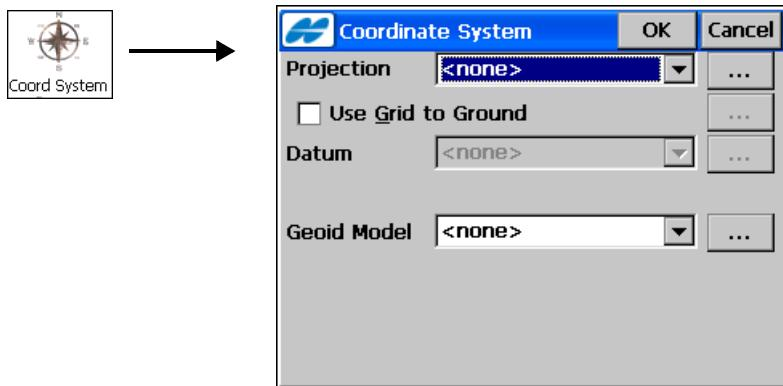

Figure 3-8. Coordinate System
To set coordinate system parameters for the job, tap the *Coord System* icon. The ***Coord System*** screen displays coordinate system information for the job (Figure 3-8 on page 3-12).
- **OK** – saves the changes and returns to the **Coord System** screen (Figure 3-8).